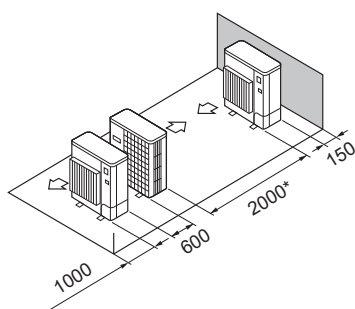

Fig. 2-17
(5) Enkelt parallel enhed arrangement (Fig. 2-17)